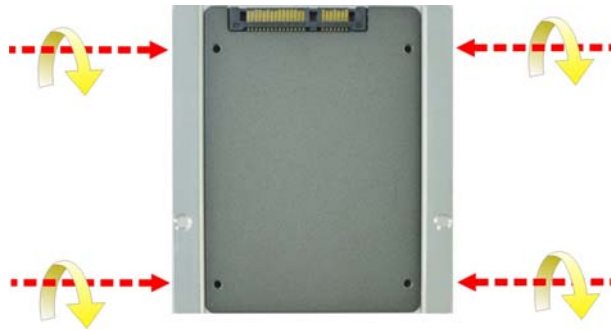

Figure 3-3: HDD Installation
Step 4: Attach the HDD to the HDD bracket. Secure the HDD with the HDD bracket by four retention screws (**Figure 3-3**).